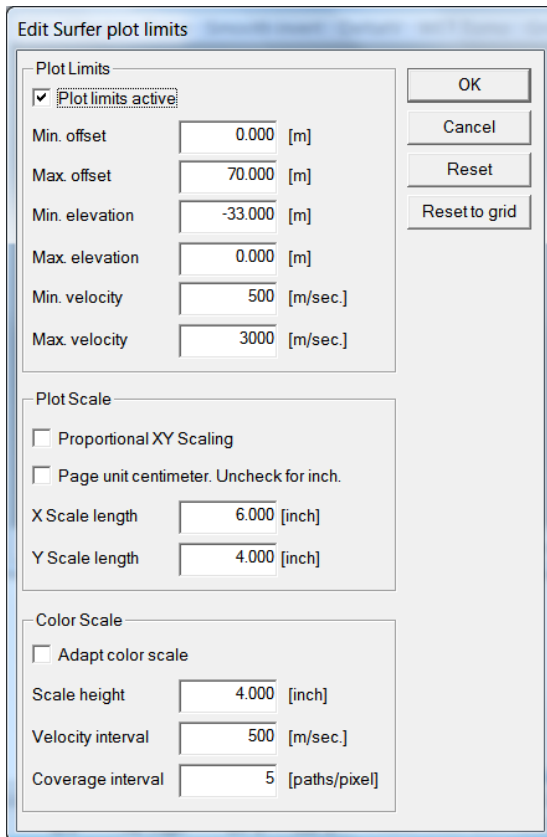

Fig. 8 : edit Surfer plot limits and velocity scale with *Grid|Surfer plot Limits...*
- select *Grid|Surfer plot Limits...* and click button *Reset to grid*. See Fig. 8.